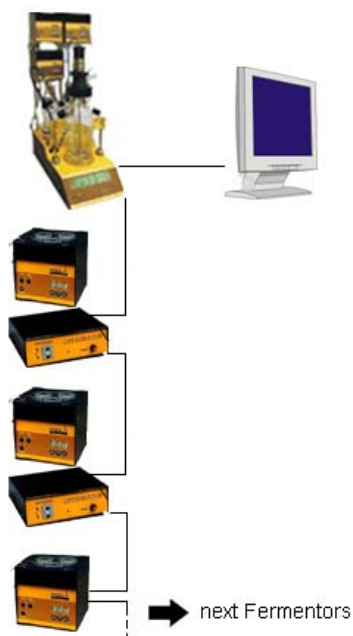

Figure 1
- The software recognizes the connected fermenters at start-up. Up to 6 fermenters, 12 integrators and 6 pumps can be connected to one PC (figure 1)